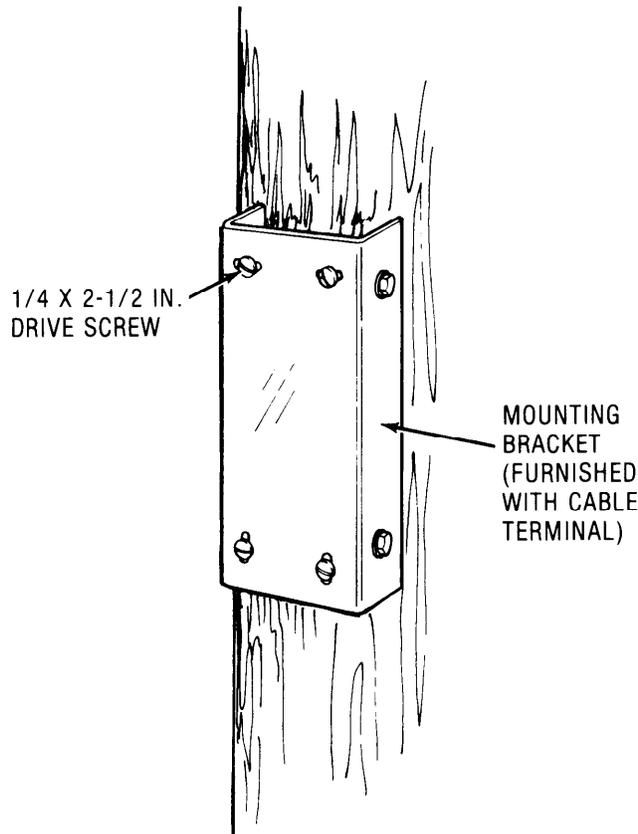

Fig. 7 — Mounting Bracket Attached to Pole
3.04 A mounting bracket is furnished with each WP Series type cable terminal. Attach the mounting bracket to the pole as shown in Fig. 7.